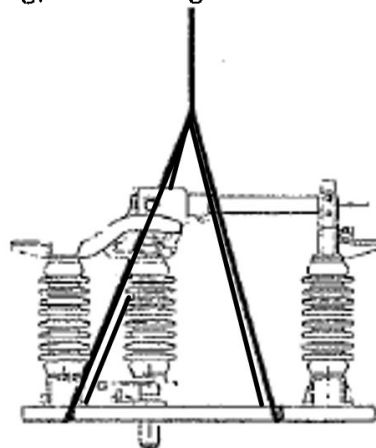

Figure 2: Recommended sling attachment
4. Mount each pole in its proper location, using the bolts specified on the operating mechanism drawing. When lifting, attach slings to the SWITCH BASE, ONLY (Figure 2).